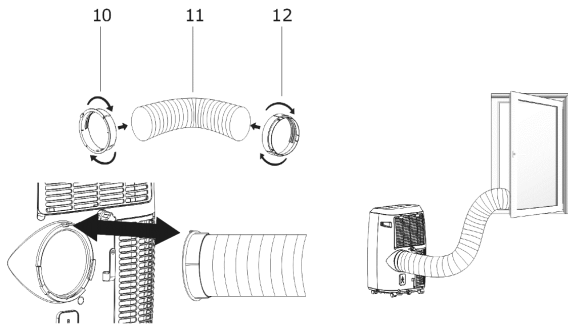

Fig. 5 Installation of exhaust air hose
- First install the appliance connection adapter and the window panel adapter on the exhaust air hose (Fig. 5).